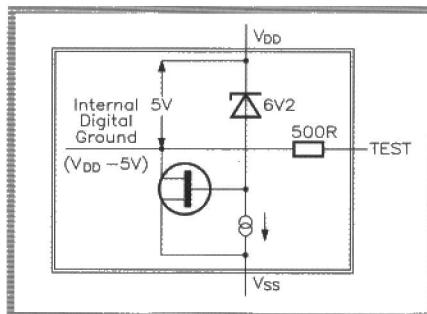

Figure 14. Internal digital ground biasing circuit of the A-to-D converter chip.
**Test & BP.** The negative or ground rail of the A-to-D converter chip's digital circuitry is internally biased at about 5V below  $V_{DD}$  by the internal circuit shown in Figure 14, and is coupled to the TEST terminal via a 500 $\Omega$  resistor. This terminal can be used as the negative rail of external digital circuitry that is powered from  $V_{DD}$ , provided that the TEST currents do not exceed 1mA. If TEST is shorted directly to  $V_{DD}$  the LCD should read '-1888' (in some models the B and G segments of the left-hand '8' are blanked in this TEST mode). Under this condition 10mA flows into the TEST pin and a DC voltage is applied to the LCD; this voltage may damage the display if sustained for several minutes.